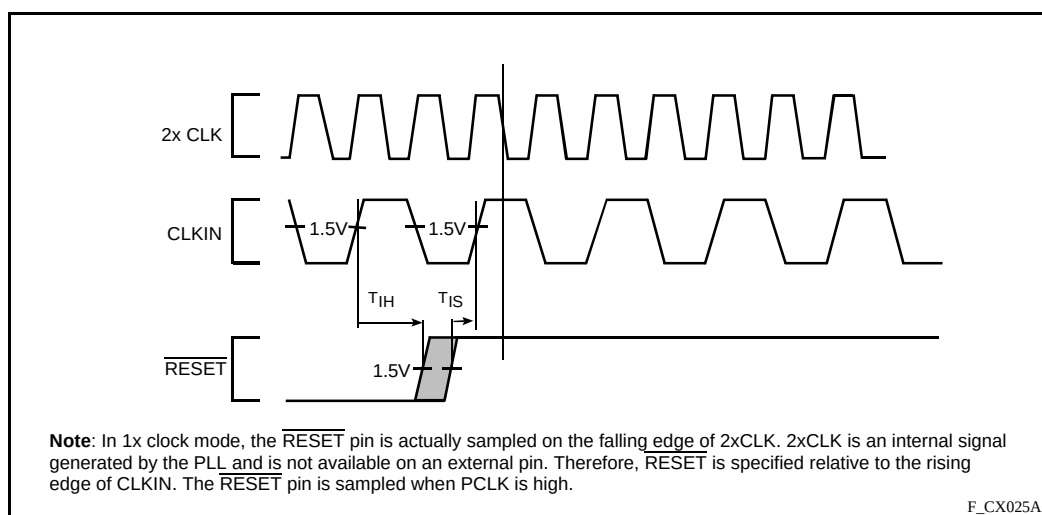

Figure 23. Clock Synchronization in the 1-x Clock Mode
- In 1-x clock mode, $\overline{RESET}$ is an asynchronous input which has no required setup and hold time for proper operation. However, to guarantee the device exits reset synchronized to a particular clock edge, the $\overline{RESET}$ pin must meet setup and hold times to the rising edge of the $CLKIN$. (See Figure 23.)